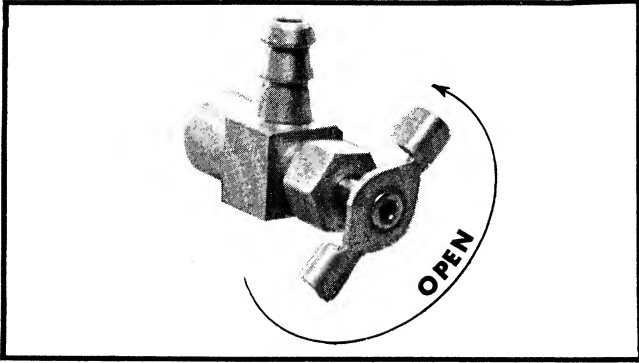

FIGURE 16. FUEL SHUT OFF VALVE
3. Open fuel shut-off valve located under the gasoline tank. See Figure 16.